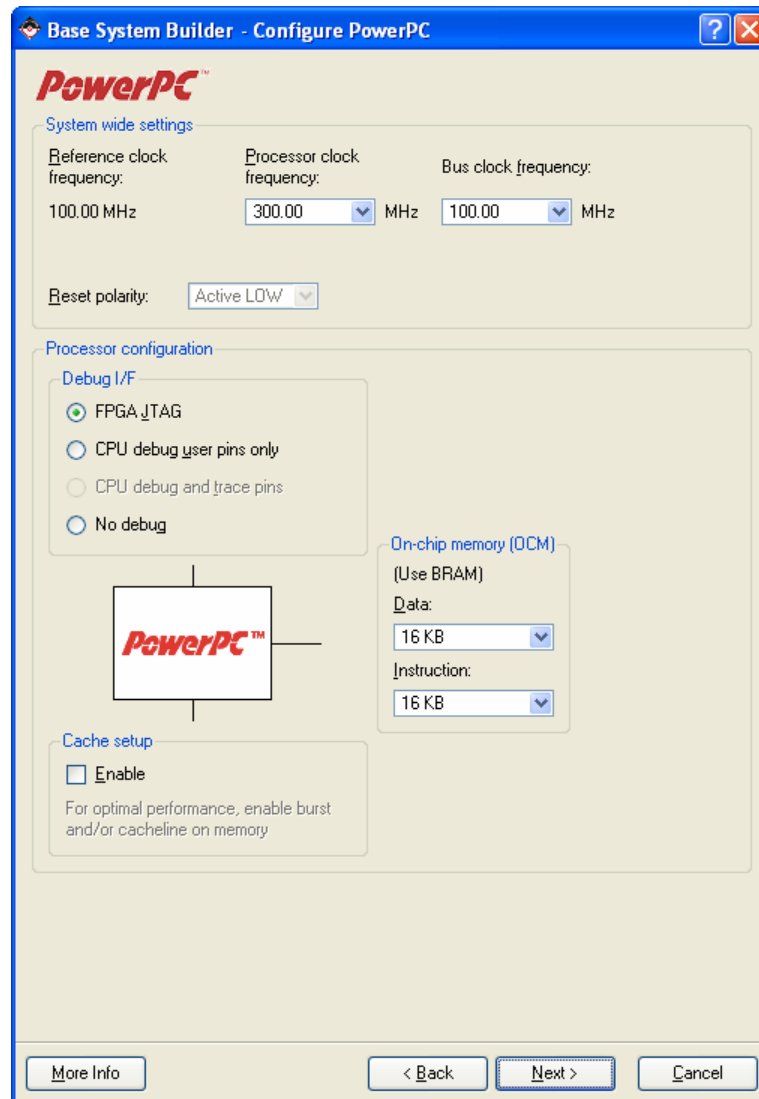

Figure 6: Configure the Power PC
- While configuring the PowerPC, change the Processor Clock Frequency to 300 MHz and On-chip Memory for Data and Instruction to 16 KB. Leave the other settings as default settings. (Figure 6). Click Next.